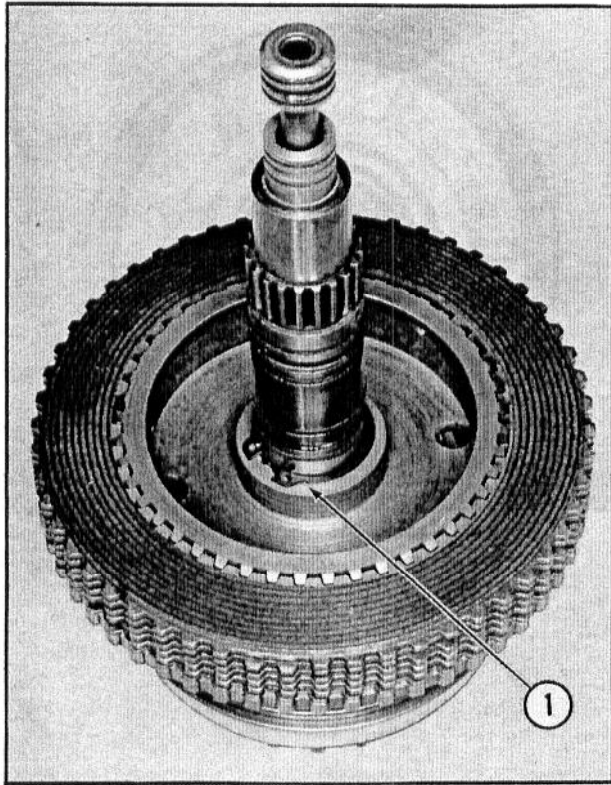

Fig. 39 — Removing the Clutch Hub
7. Remove the snap ring securing the clutch hub to the end of the shaft. See Fig. 39. Slide the hub straight up, being sure that you do not "hang up" on the steel sealing rings.
15. Install the snap ring securing the hub to the output shaft. See Fig. 39.